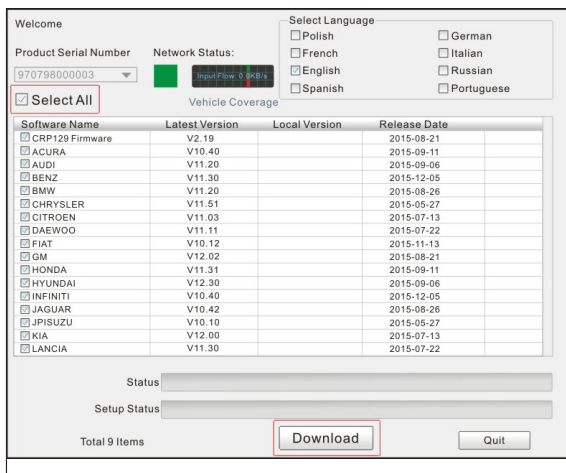

Figure 7-6
10. Reopen the FX2000 update Suite and select the updates you would like to perform or click [Select All] and click [Download]. (Figure 7-6)